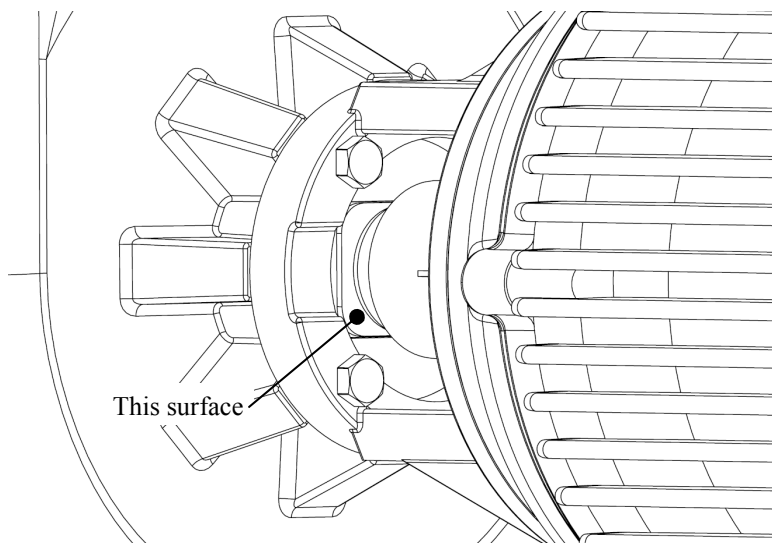

Figure 25
8. Push the stationary seal out from the back of the pump using an o-ring pick or your fingers or both again make sure to push outside of the rear seal face so the seal surfaces are not damaged. Pushing on opposite sides of the shaft with constant light pressure the best. See figure 25.